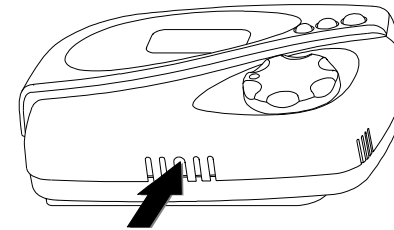
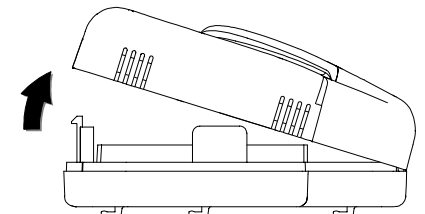

Fig. 2: Plastic cover opening slot.
Fig. 3: How to remove the plastic cover.
1. Remove the plastic cover pressing (with the help of a tool like a screwdriver) the plastic tooth located in the lower slot as indicated in Fig. 2 raising, at the same time, the front cover as indicated in Fig. 3.